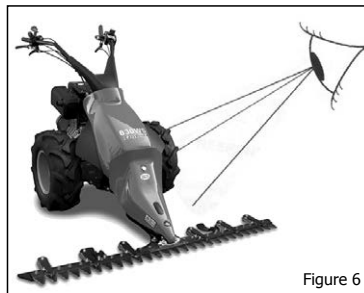

Figure 6
**READ** and observe all warning labels on the machine and implements (figure 6).